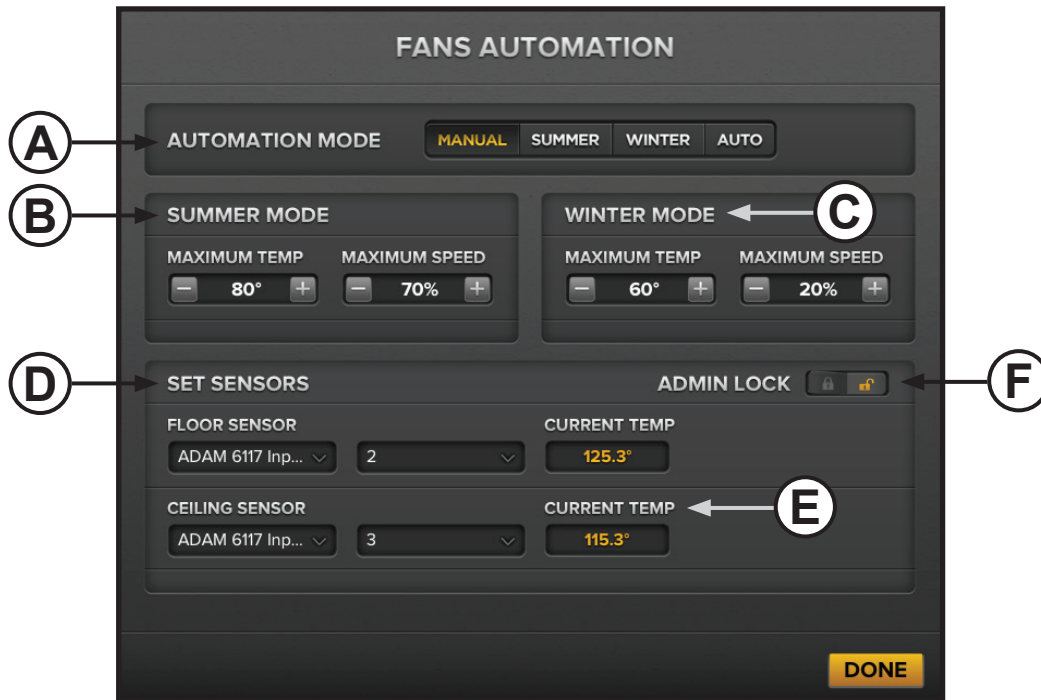

Figure 6—Fans Automation page
4. Next to Automation Changes, touch **Edit**. The Fans Automation page appears (Figure 6).
5. Configure the settings, and then touch **Done**. See Figure 6 below for details.